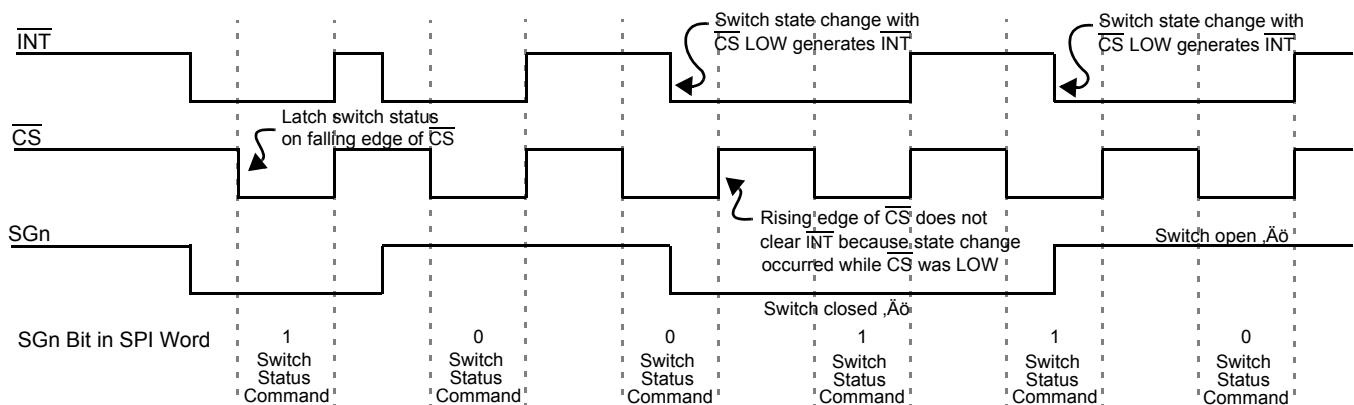

Figure 6. Normal Mode Interrupt Operation
2. INT pin is reset to logic [1], except when additional switch changes occur during $\overline{CS}$ LOW. (See Figure 6 on page 9.)